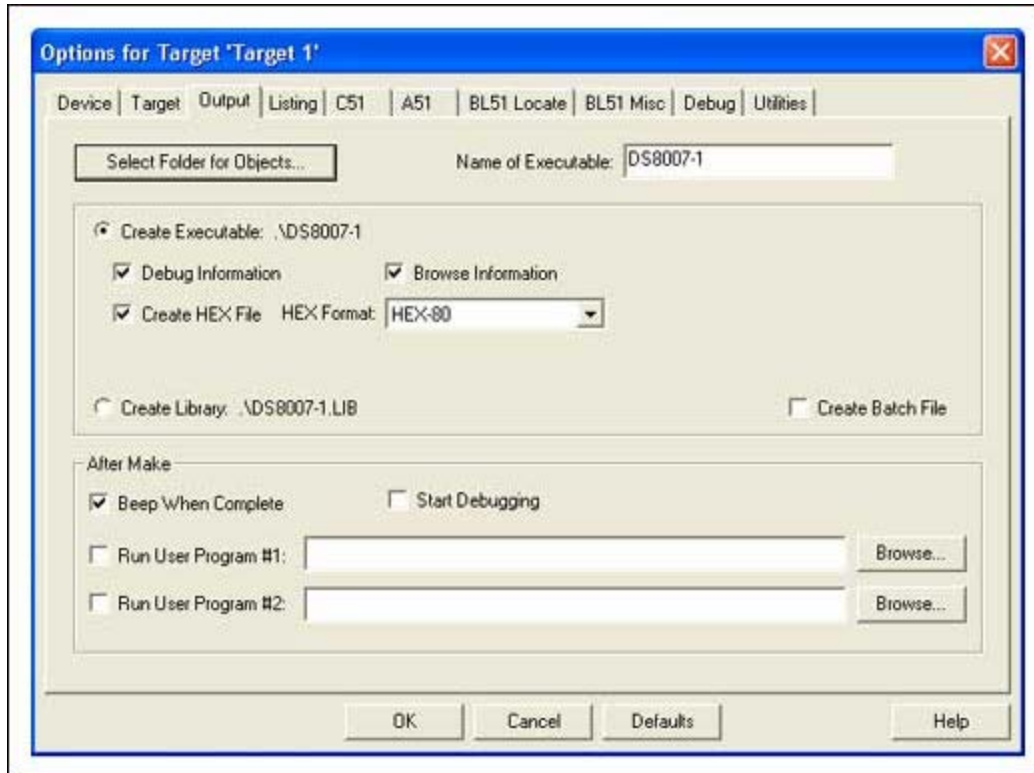

Figure 4. Project options output tab settings.
8. On the Output tab, check "Create Executable" (if it is not already), and be sure that the "Create HEX File" box is checked. Select the HEX Format of HEX-80 from the dropdown selector box, as shown in **Figure 4**. All other selections in this window should remain in their default state. Click "OK" to close the Options for Target 'Target 1' window.